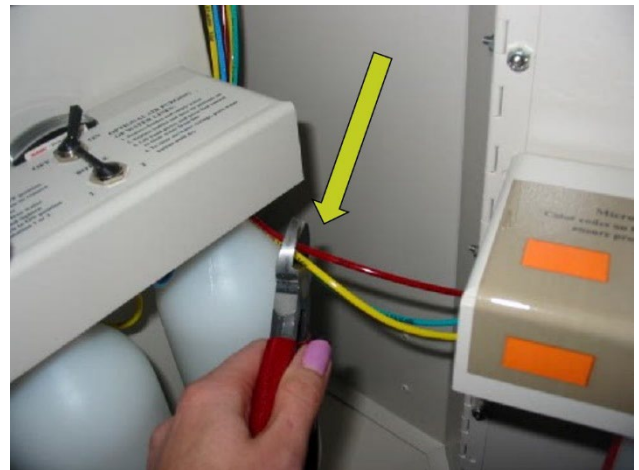

Fig. 5
- 7 Cut tubing, leaving approximately 8-12 inches slack. (Fig. 5)